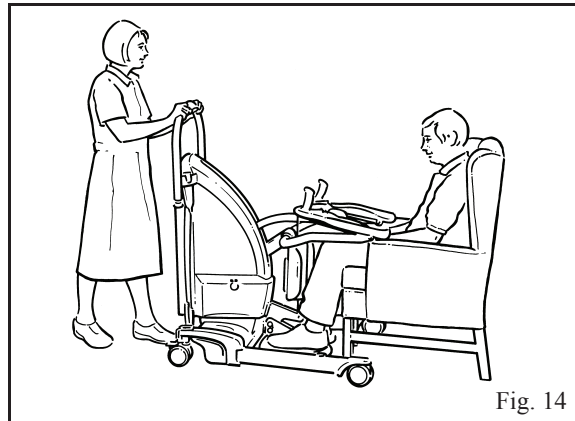

Fig. 14
4. **For transfers:** When the patient is ready, give assistance or allow the patient to place his/her feet on the foot support, pushing the *Sara Plus* towards the patient a little to achieve this easily. (See Fig 14).